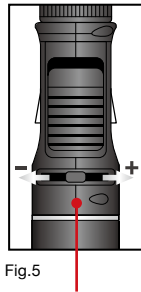

Fig.5
- The tip temperature can be adjusted by turning the **Gas Control Lever** left or right. (Fig. 5)